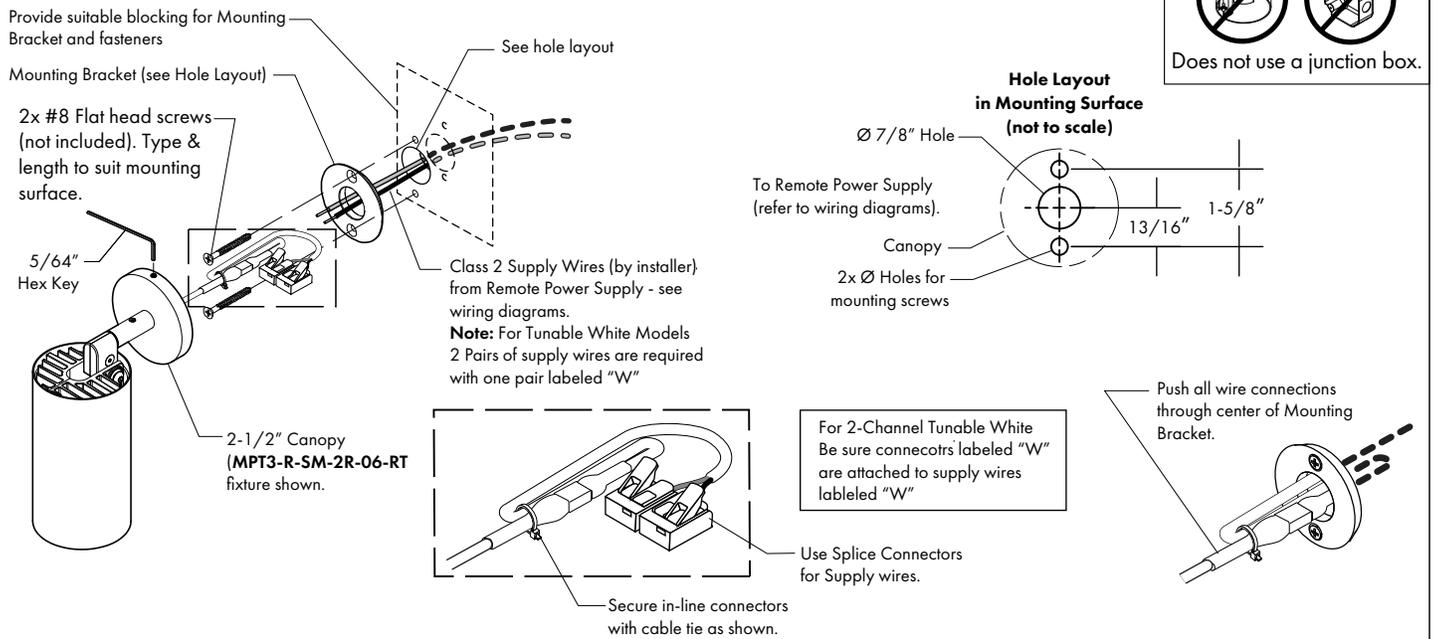

FIG 2.1 MPT3-S/R-SM-2R/S-RT Wire & Install Fixture
STEP 1 Verify suitable mounting location, junction box and blocking requirements - **FIG 2.1 & FIG 2.2.**
STEP 3 For installations without a junction box, drill 7/8" hole at fixture location and pull through blocking or suitable surface, route Class 2 wiring from remote power supply to fixture location and pull through 7/8" hole - **FIG 2.1 & FIG 2.2.**
STEP 4 Install Mounting Bracket after making wire connections. Position Fixture Canopy as desired & tighten set screw in Canopy - **FIG 2.1 & 2.2.**